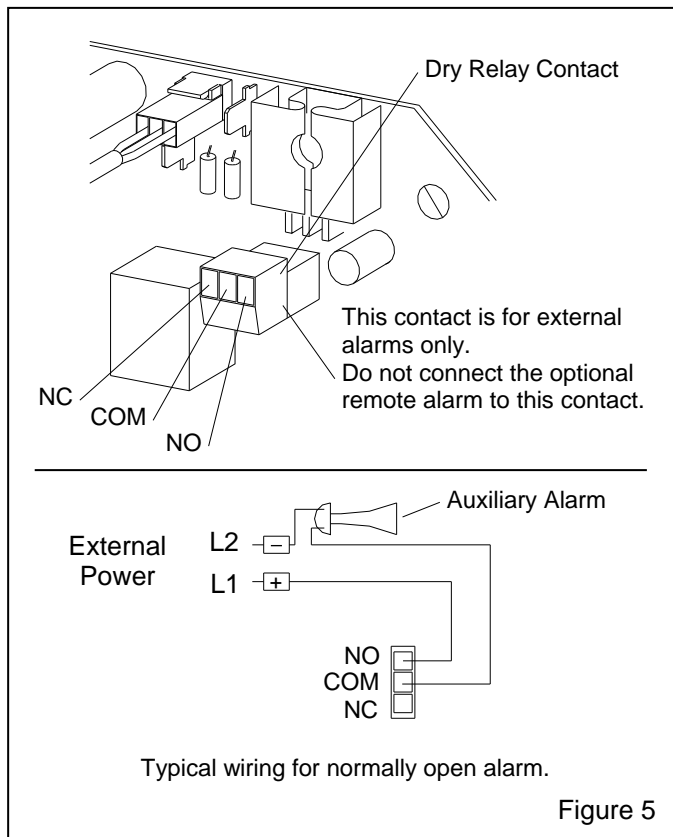

Figure 5
2.6 Connecting an External Alarm and Shutdown Device – Figure 5
2.6.1 A dry relay contact, rated at 5 amperes, is mounted on the circuit board as shown in Figure 5. An electrician will use the contacts to operate relays for external alarms and shutdown devices.